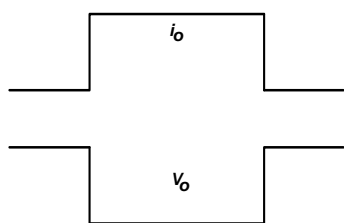
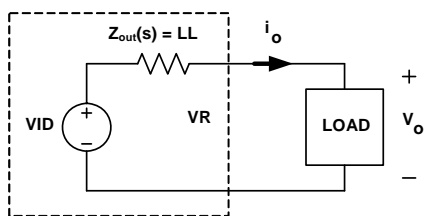

FIGURE 21. DESIRED LOAD TRANSIENT RESPONSE WAVEFORMS
FIGURE 27. VOLTAGE REGULATOR EQUIVALENT CIRCUIT
Assuming the compensator design is correct, Figure 21 shows the expected load transient response waveforms if  $C_n$  is correctly selected. When the load current  $I_{core}$  has a square change, the output voltage  $V_{core}$  also has a square response.
Figure 21 shows the desired load transient response waveforms. Figure 27 shows the equivalent circuit of a voltage regulator (VR) with the droop function. A VR is equivalent to a voltage source (= VID) and output impedance  $Z_{out}(s)$ . If  $Z_{out}(s)$  is equal to the load-line slope LL, i.e., a constant output impedance, then in the entire frequency range,  $V_o$  will have a square response when  $I_o$  has a square change.